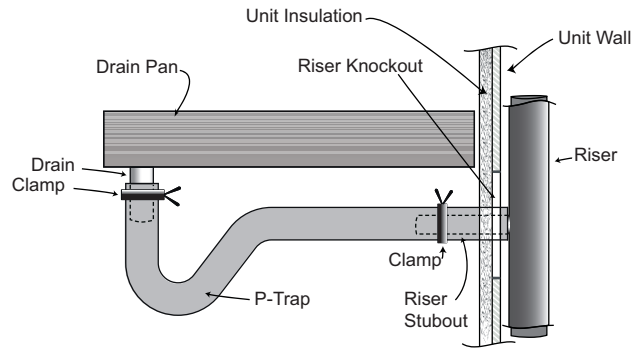

Fig. 26 — 42SUA Unit Riser to Drain Installation
- Locate the p-trap drain and rubber hose factory installed to the drain pan connection in the bottom of the unit as shown in Fig. 26.
- Adjust the hose clamp over the riser stubout and rubber hose to hold in place as shown in Fig. 26.